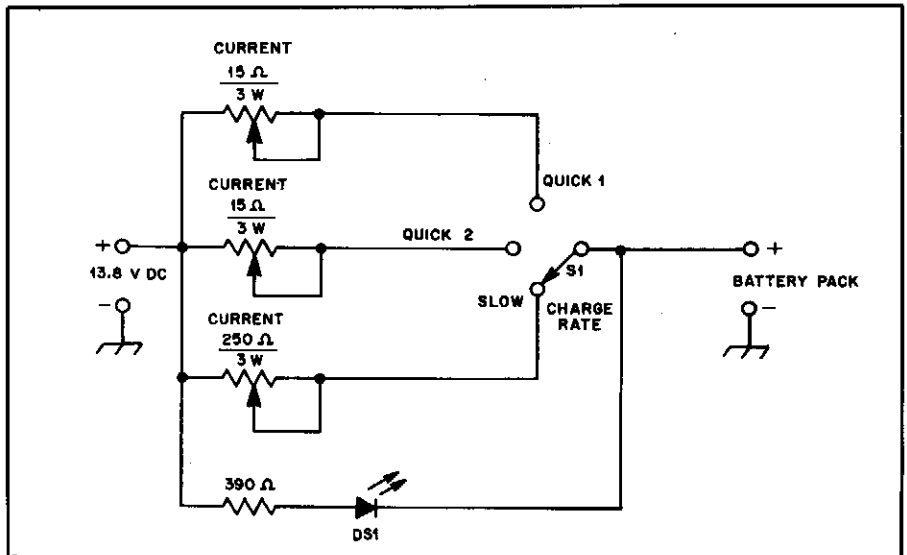

Fig 3—KB3WZ's emergency charge adapter for NiCd battery packs. S1 is a three-position, single-pole rotary switch. DS1 is any common LED.
□ Fig 3 shows a simple charge adapter I use to charge batteries for my hand-held transceivers. The adapter allows both fast and slow constant-voltage charging with a regulated 13.8-V dc power supply.¹